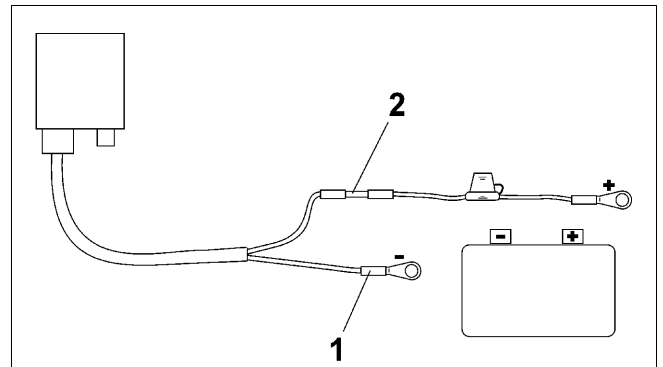

Fig. 4
- Insert the blue cable (earth cable) into the loose ring tongue (Fig. 4/1).
- Insert the brown cable (+ 12 Volt) into a free butt joint (Fig. 4/2).
- Shrink butt joint (Fig. 4/2) by using a heat source (lighter or hair dryer) until the adhesive escapes.